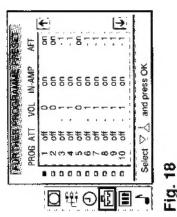

Fig. 18
- 4 Select »Further Programme Preset« with $\Delta+$ or $\nabla-$ and press OK. The FURTHER PROGRAMME PRESET menu appears (See Fig. 18).